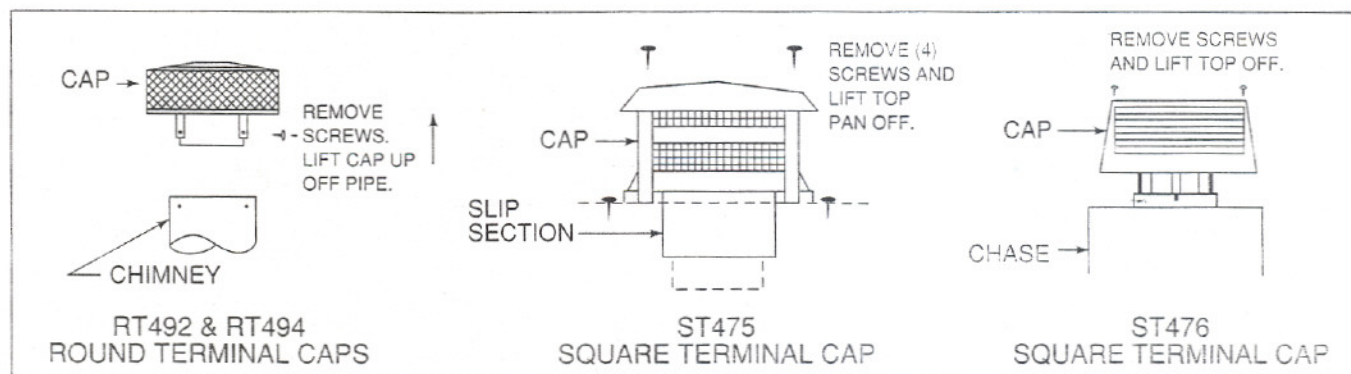

Figure 18
3. Remove the Terminal Cap. See Figure 18.